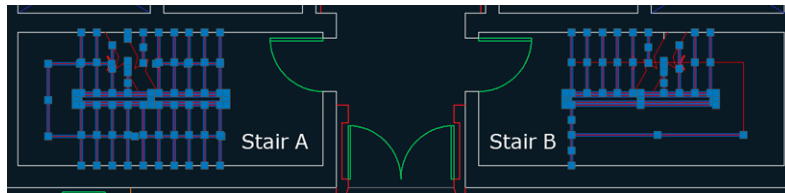

FIGURE 4.9 Selecting similar objects en masse
11. Select one of the vertical tread lines in Stair A by clicking on it. Right-click, and choose Select Similar from the context menu that appears. All lines on the same layer are selected; you might have to zoom out to see both stairs (see Figure 4.9). Other object types on the same layer remain unselected because they were not similar enough. Press Esc.